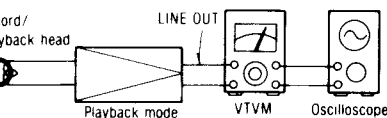

Fig. 6
8. Make connections as shown in fig. 6.
1. Test equipment connection is shown in fig. 6.